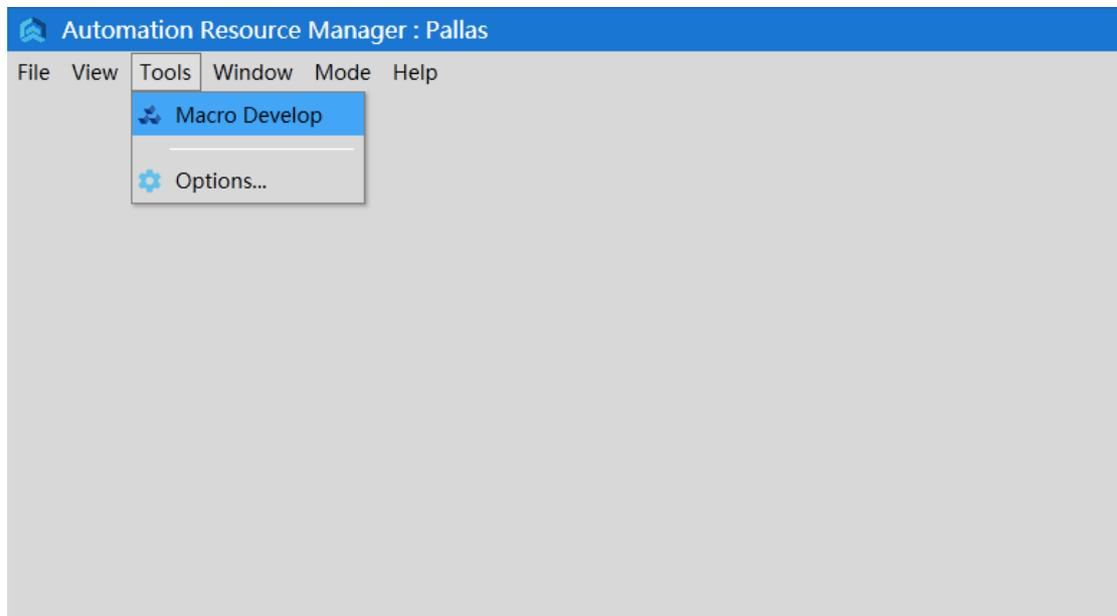

Figure 6-6 ARM interface
Step 2 On the interface of ARM in Pallas mode, click <Tools> on the menu bar and select <Macro language development interface>, as shown in Figure 6-6.